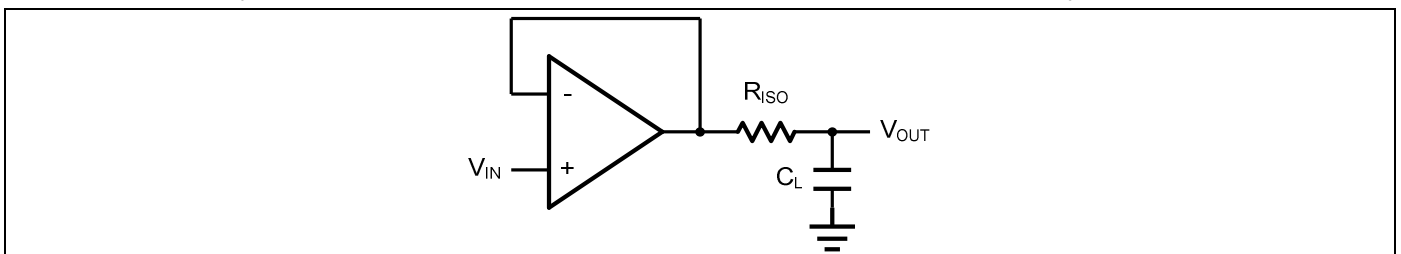
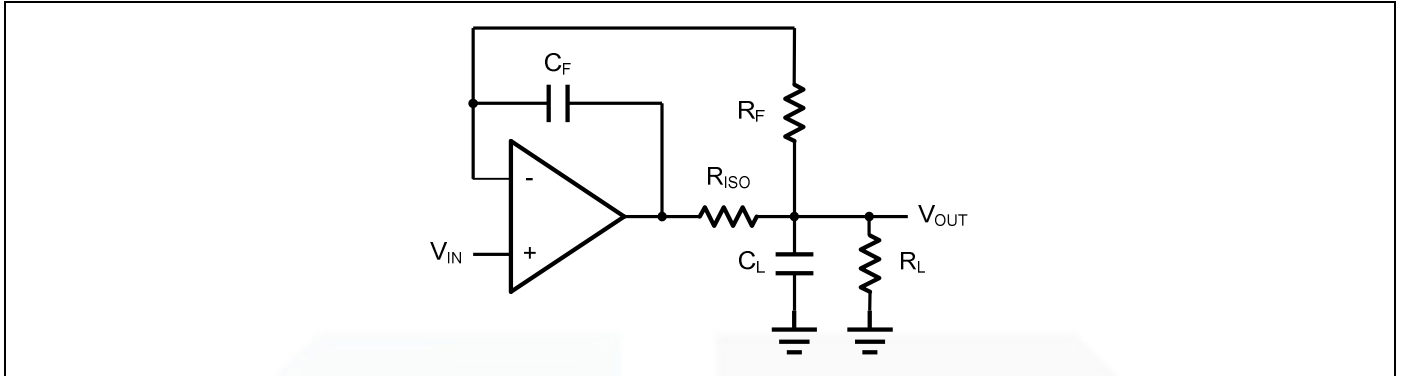

Figure 2. Indirectly Driving a Capacitive Load Using Isolation Resistor
Figure 3. Indirectly Driving a Capacitive Load with DC Accuracy
The P60X family is optimized for bandwidth and speed, not for driving capacitive loads. Output capacitance will create a pole in the amplifier's feedback path, leading to excessive peaking and potential oscillation. If dealing with load capacitance is a requirement of the application, the two strategies to consider are (1) using a small resistor in series with the amplifier's output and the load capacitance and (2) reducing the bandwidth of the amplifier's feedback loop by increasing the overall noise gain. Figure 2. shows a unity gain follower using the series resistor strategy. The resistor isolates the output from the capacitance and, more importantly, creates a zero in the feedback path that compensates for the pole created by the output capacitance.
The circuit in Figure 3 is an improvement to the one in Figure 2.  $R_{\text{F}}$  provides the DC accuracy by feed-forward the  $V_{\text{IN}}$  to  $R_{\text{L}}$ .  $C_{\text{F}}$